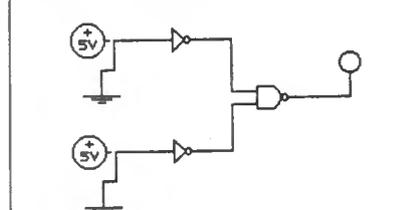

Fig. 7.25 NAND gate with inverted inputs (Assignment 7.2).
5. Connect the circuit shown in Fig. 7.25. The output of the circuit is connected to a logic level indicator whilst the two inputs are derived from +5V and ground points. Switch on the power and test the circuit by constructing its truth table.